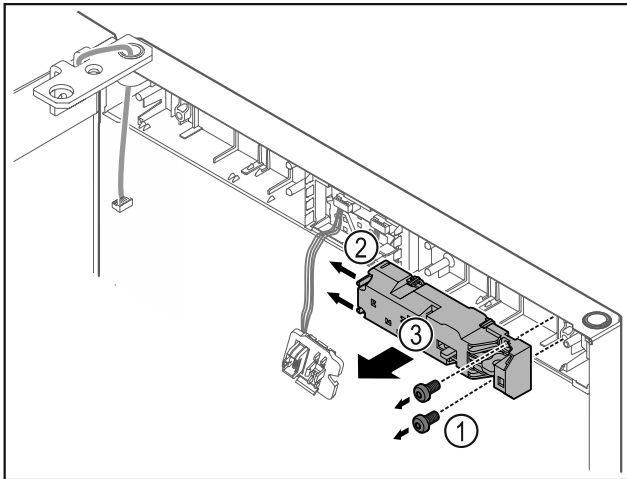

Fig. 17
- ▶ Remove the screws Fig. 17 (1).
- ▶ Press the latching lugs Fig. 17 (2) to the side and take off the remote lock Fig. 17 (3).